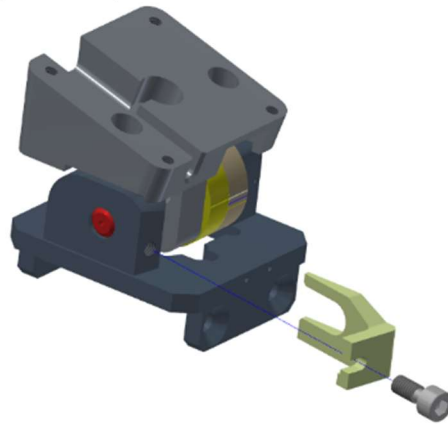

Figure 6-52. Insert Adjustment Wedge (474-3052)
- 6.3.21 Insert Adjustment Wedge (474-3052) into Neck Posture Adjustment Assembly (474-3050) and tighten with one Modified M6 X 1 X 12 LG. SHCS (Figure 6-52).